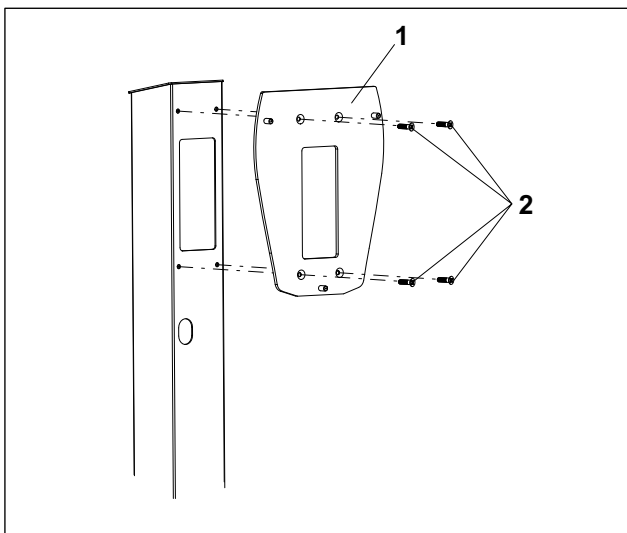

Fig. 1 Fastening of the adapter plate
1. Fasten the adapter plate (Fig. 1/1) to the column using the four enclosed countersunk screws M6x16 (Fig. 1/2). Tightening torque 7 Nm.